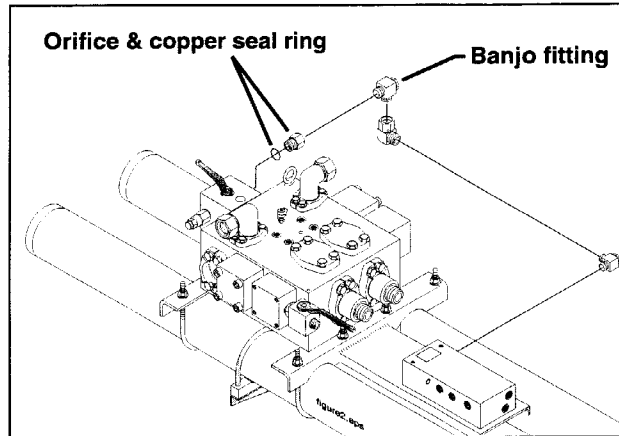
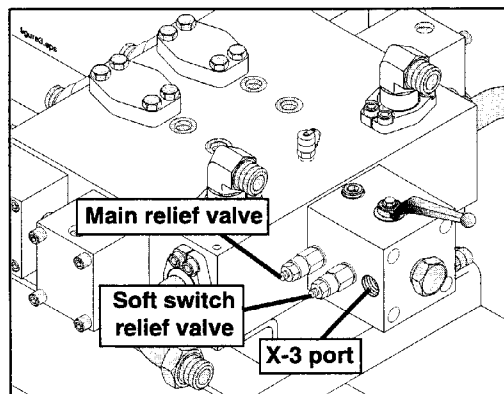

Figure 2
Figure 3
If the soft switch reversing valve cartridge is stuck in the crossover position, it must be replaced. Damage to the new cartridge can be avoided by installation of the orifice assembly shown in figure 2. The orifice is to be installed in the X-3 port of the soft switch/main relief control unit. The X-3 port is the activation port for the soft switch reversing valve cartridge. Figure 3 shows the exact location of the X-3 port.
1. Locate the X-3 port on the soft switch/main relief control unit, as shown in figure 3.
3. Install the orifice and copper seal ring as shown in figure 2.